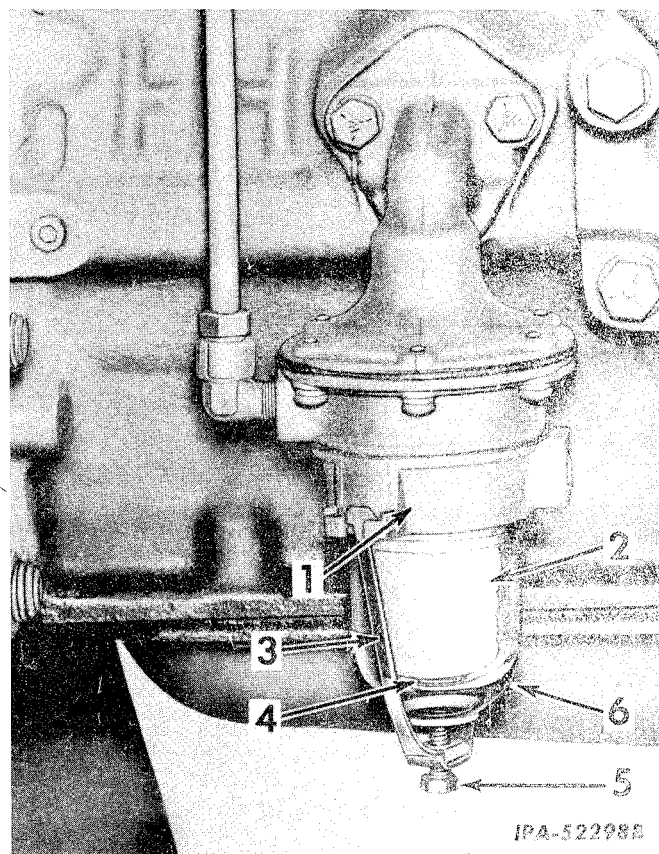

Figure 2-24
Disassemble filter by loosening screw (5, Fig. 2-24) at the bottom of the bowl (6) to relieve the tension on the retainer (3).